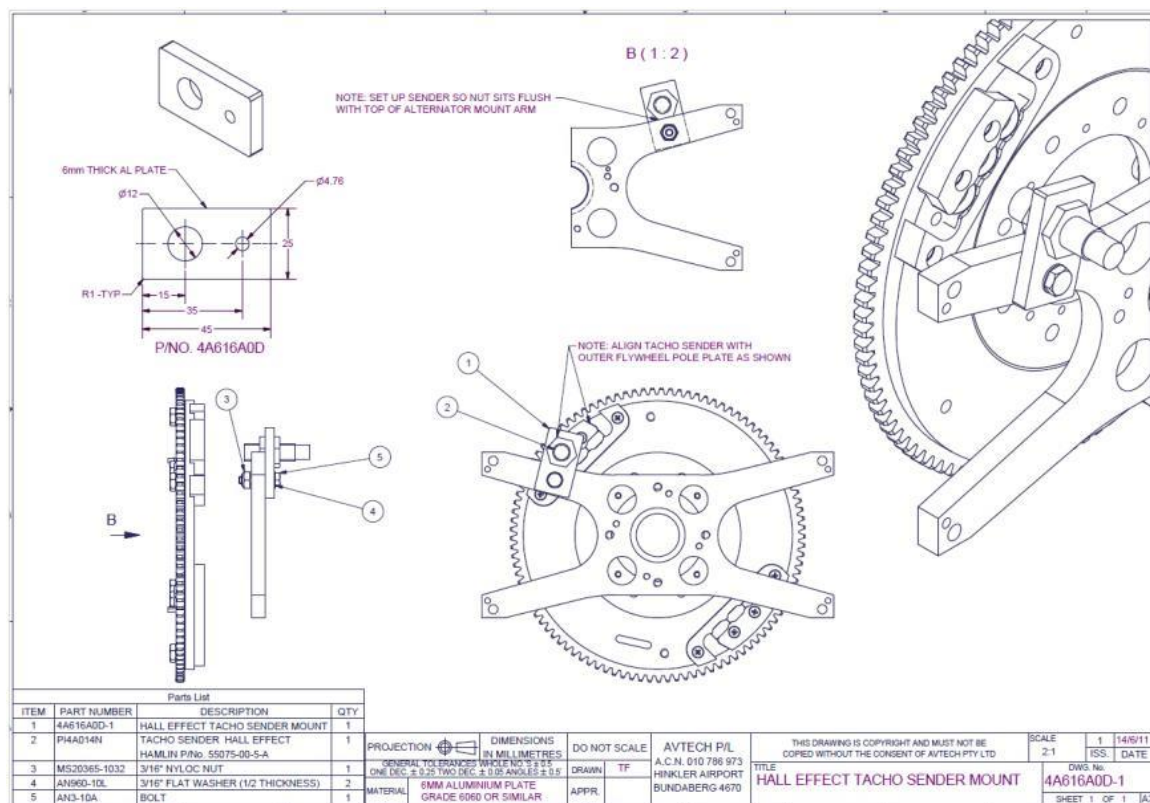

Figure 153 – Hall affect Tacho Sender
- Where the hall-effect type tacho sender is used (Figure 153) it must be installed during final assembly